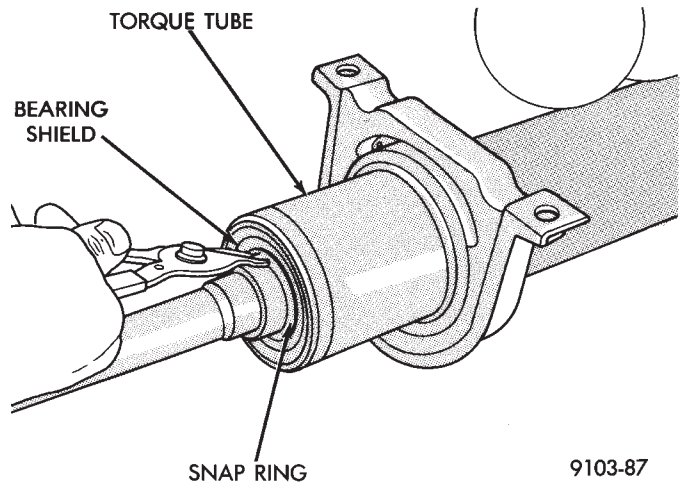

Fig. 8 Remove Torque Shaft Snap Ring and Shield
(13) Remove front snap ring and torque tube bearing shield (Fig. 8).